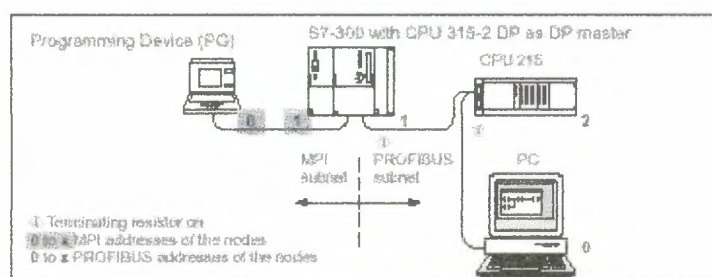

Figure 6.8 CPU 215 on a PROFIBUS Subnetwork, with MPI Subnetwork
- A CPU 215 functions as a remote I/O module owned by an S7-300 or S7-400 programmable logic controller or by another PROFIBUS master. See Figure 6.8.